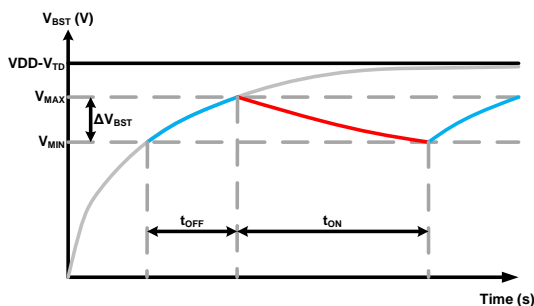

Figure 25. Bootstrap capacitor charging (shown in blue) and discharging (shown in red) curves.
As shown in Figure 25, in steady state, the voltage decreases ΔV_{BST} on C_{BST} during discharge (red curve, ON time t_{ON}) is given by:
- In steady state, as shown in Figure 25, the voltage difference ΔV_{BST} during the charge period (blue curve, OFF time t_{OFF}) is given by: